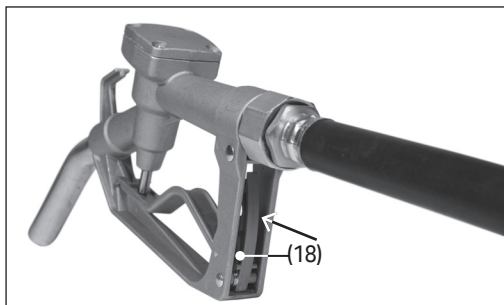

Fig. 7
- b. Press the trigger lock button (18) inwards and allow the trigger to rest in one of the catches (Fig. 7).